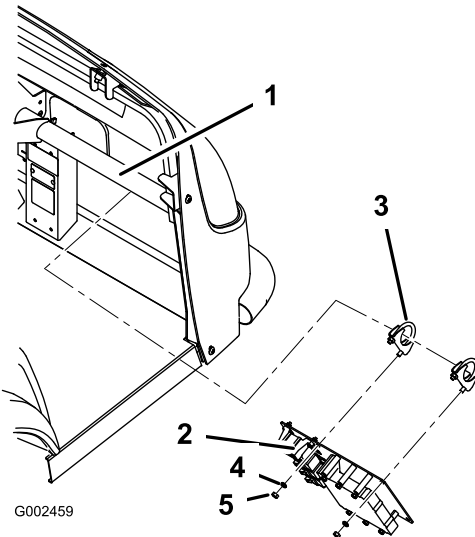

Figure 11
- C. For the Workman 200 Spray System, install the mount plate using 2 U-bolt clamps (5/16 x 3/4 inch) 2 nuts (5/16 inch) and 2 lock washers (5/16 inch) as shown in Figure 11.